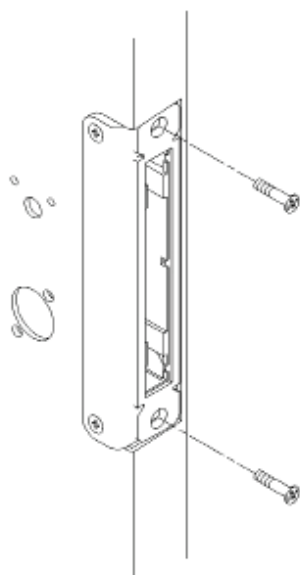

Figure 7-1A
Remove the two (2) #12-24x1" flat head mounting screws. (Figure 7-1A)